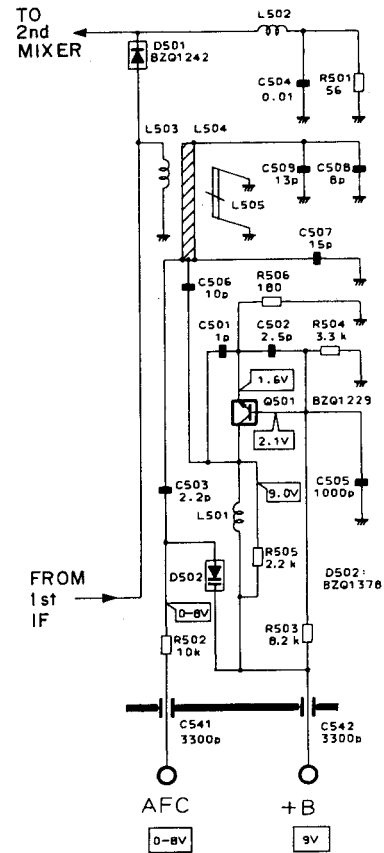

Fig. 8 2nd Local Oscillator and Mixer
8. 2nd Local Oscillator and Mixer (Fig. 8)